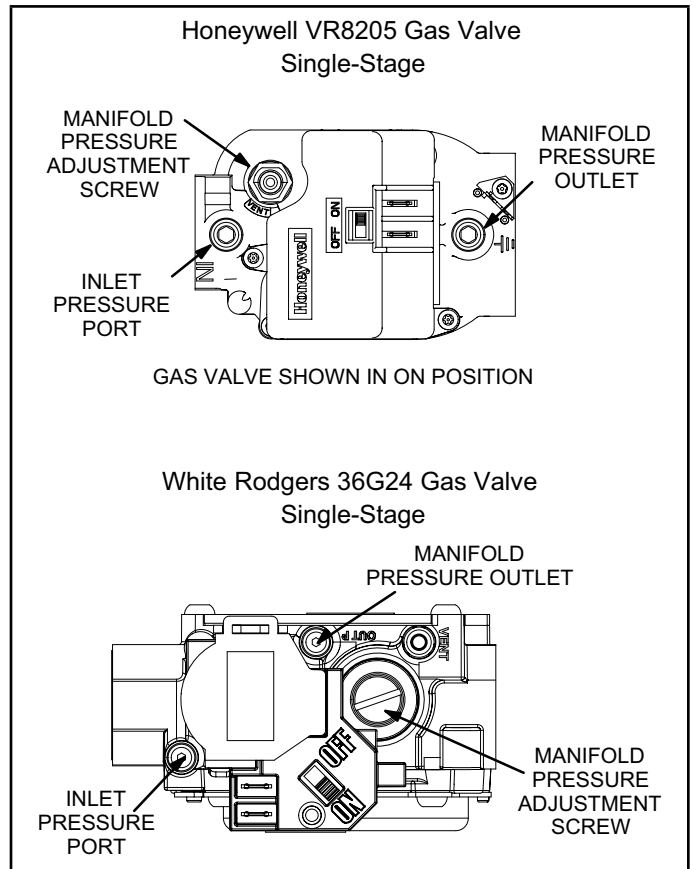

FIGURE 9
- 3 - Slide the gas valve switch to the "ON" position (see FIGURE 9).
- 2 - Slide the gas valve switch to the "OFF" position (see FIGURE 9).